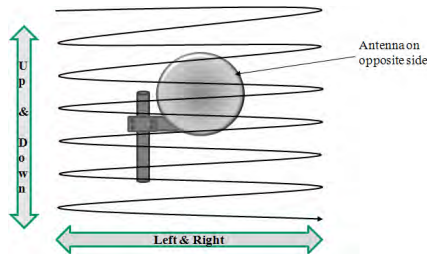

Figure 5-16: Antenna alignment scan
- Turn the Azimuth and Elevation Adjustment Screws at each antenna left/right for best azimuth alignment and up/down for best elevation alignment and observe the voltmeter reading. The goal is to find the maximum RSSI voltage reading on both sides of the link. Using a meander-like scan pattern has proven to be the most efficient way to align the antennas. This is illustrated in Fig. 5-16.